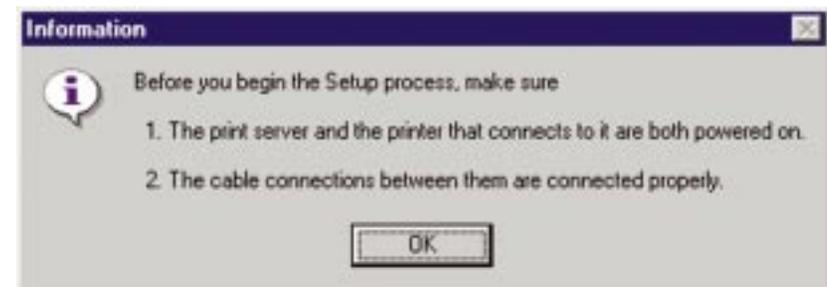

Figure 4-10
6. Before setting up and configuring the Printer Port, follow the directions on the screen, as shown in Figure 4-10, and click the **OK** button to continue.